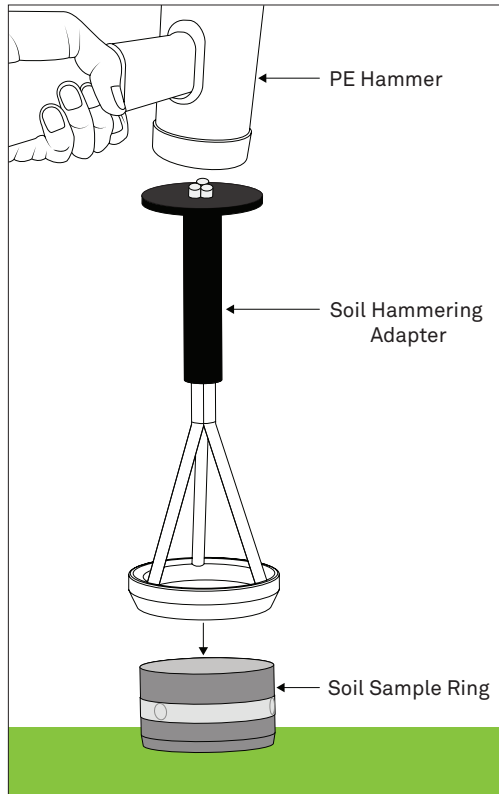

Figure 8 Pound METER hammering adapter with PE hammer to drive soil sample ring into ground
6. Pound on the METER hammering adapter using the recommended PE hammer until the sample ring is completely buried in the soil (Figure 8).